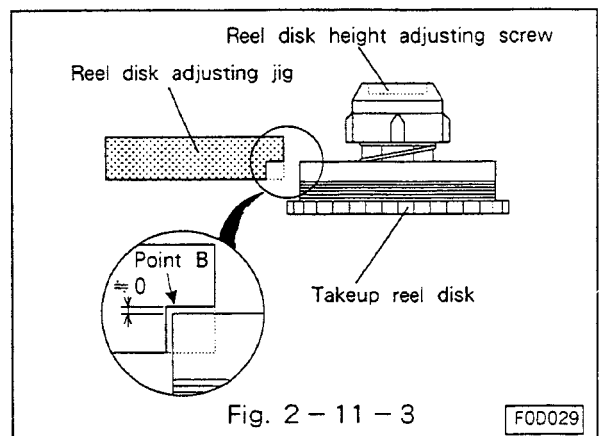

Fig. 2-11-3
- L. If the height of the disk is not satisfactory, hold the disk so that it shall not turn, and turn the height adjusting screw at the top of the disk to adjust the height. (Refer to Fig. 2-11-3.)
- Turn the jig slowly about the point A towards the takeup reel disk to make certain that the height of the disk flange agrees with the point B on the takeup side of the jig (marked TU). (Refer to Fig. 2-11-3.)
- If the height of the disk is not satisfactory, hold the disk so that it shall not turn, and turn the height adjusting screw at the top of the disk to adjust the height. (Refer to Fig. 2-11-3.)